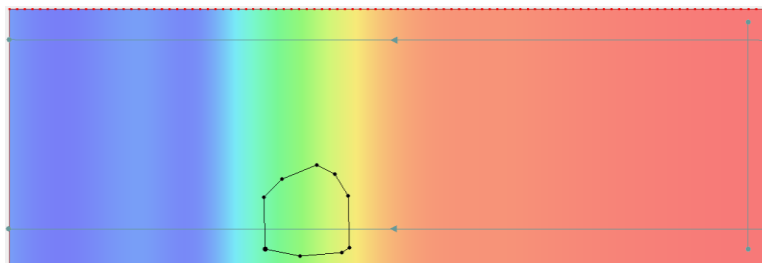

Figure 8 Area with different roughness
2. Using the **Create Feature Arc**  tool, click out a polygon enclosing an area with different roughness, as shown in Figure 8. The polygon does not have to be exactly the same as shown in the figure, but should cover a similar area.